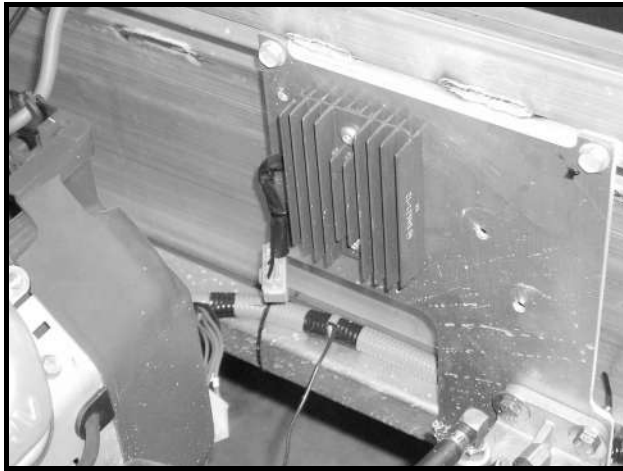

Figure 12a-4 Voltage Regulator
1. Position the voltage regulator on the mounting plate and install the mounting screws. Tighten screws to 9.0 ft-lb (12.2 N·m) (**Figure 12a-4, Page 12a-4**).